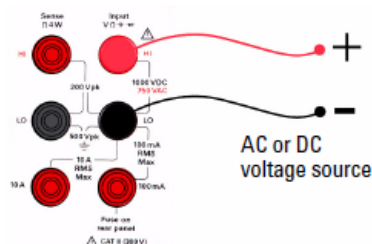

Figure 29: Multimeter connections for voltage measurement (top lead = red, bottom lead = black).
- Connect two plug to croc-clip leads (see Figure 27) to the ports shown in Figure 29.